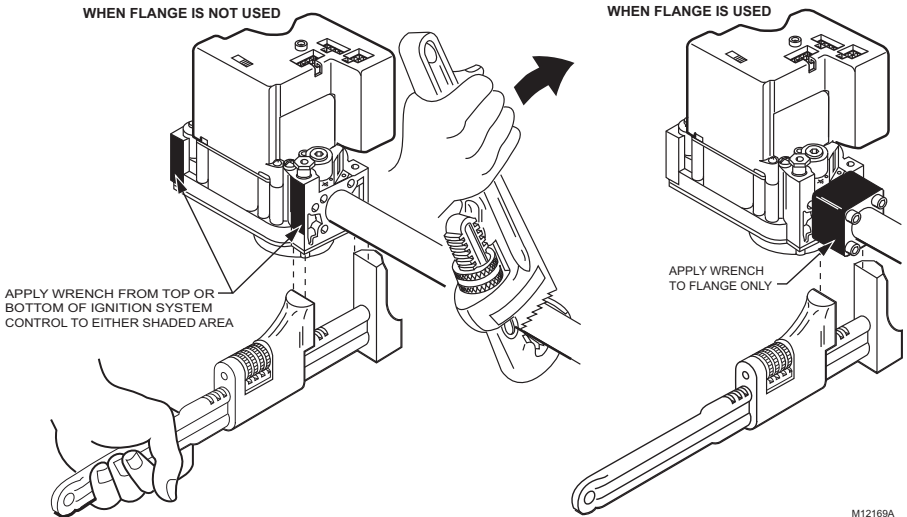

Fig. 4. Proper use of wrench on ignition system control with and without flanges.
Complete the instructions below for installing the piping, installing the control, and connecting the pilot tubing and wiring. Make sure the leak test you perform on the control after completing the installation includes leak testing the adapters and screws. If you use a wrench on the valve after the flanges are installed, use the wrench only on the flange, not on the control. See Fig. 4.
- Connect the pipe to the ignition system control inlet and outlet. Use a wrench on the square ends of the ignition system control. If a flange is used, place the wrench on the flange rather than on the ignition system control. Refer to Fig. 4.